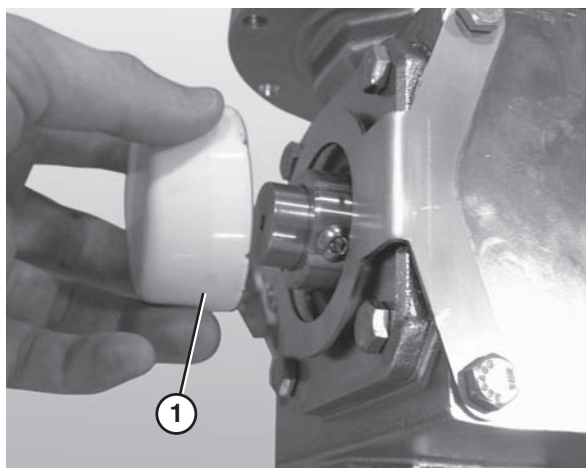

Figure 9
6. Attach the gearmotor cover (**Figure 9, item 1**).